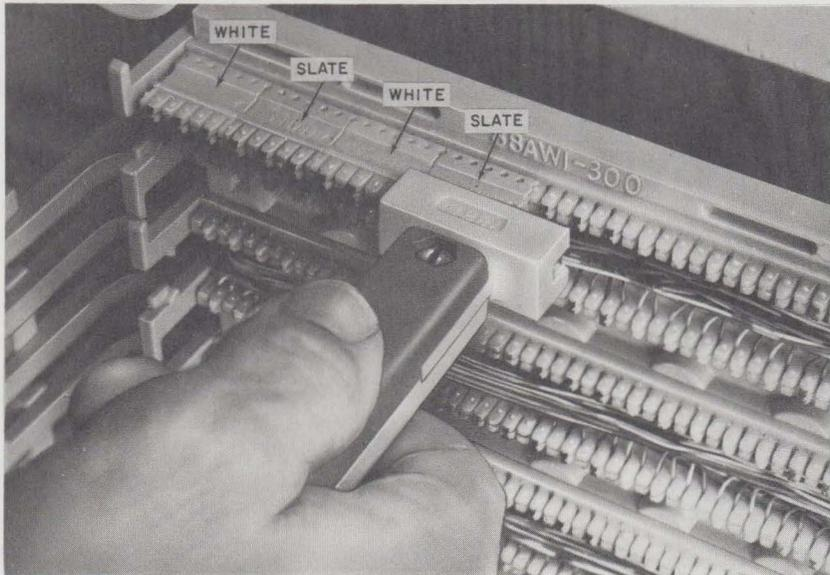

Fig. 21—Seating Connecting Block on Index Strip
3.17 The slate-white 88-type connecting blocks aid in pair identification. Place the blocks on the index strip starting with the white side up at the extreme left and alternating slate and white sides for the remainder of the strip (Fig. 21). Use the 5-pair connecting block where it is desirable to identify even-count color groups. Use the 3-pair blocks where the six leads of key system line circuits are terminated such as in the blue field. Place blocks only as required.